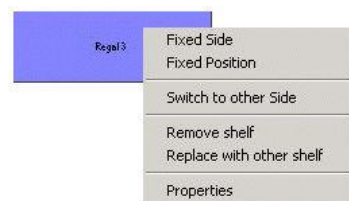
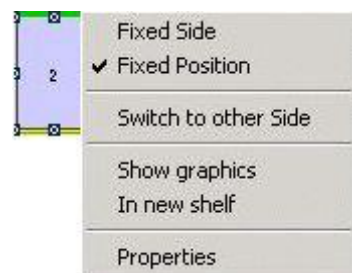

Figure 195: Shelf Context Menu
Figure 198: Loading Unit Context Menu
- You can execute the corresponding functions via either of the context menus, shelf or loading unit. *Please refer to the Figure 195 and Figure 198.*
- 5) Select **Remove shelf** in the context menu of the selected shelf. *Please refer to the Figure 195.*